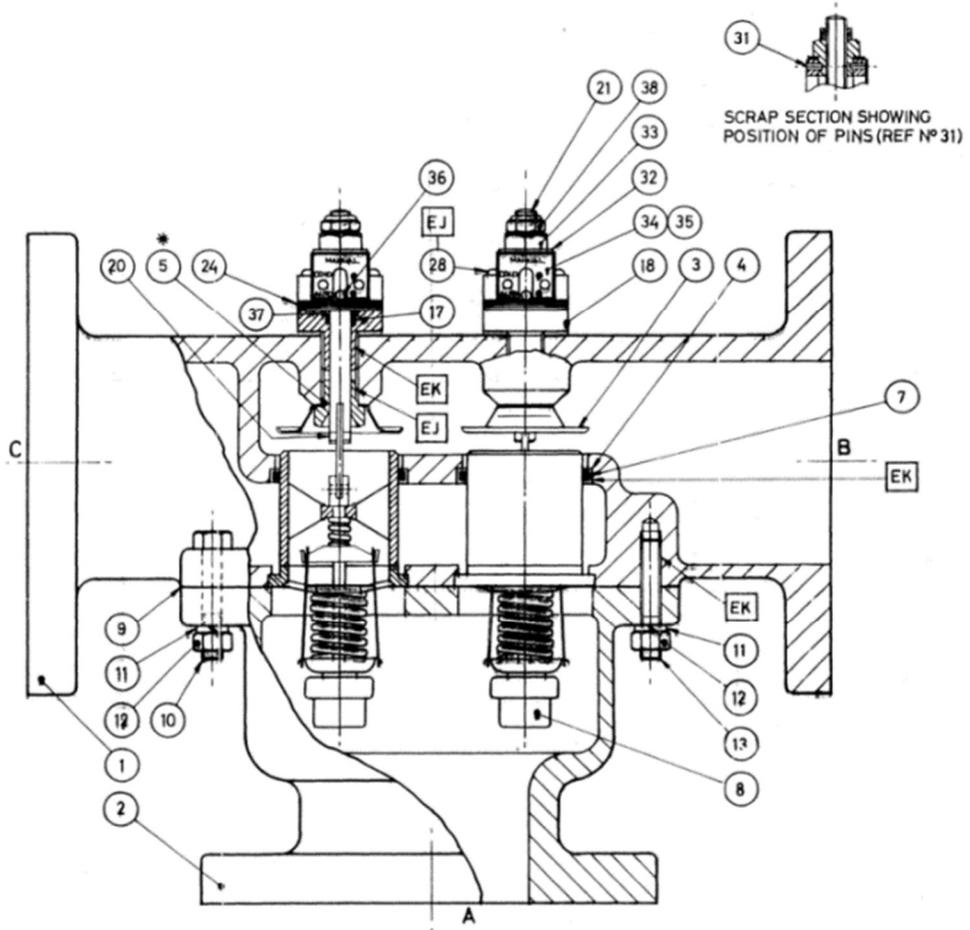
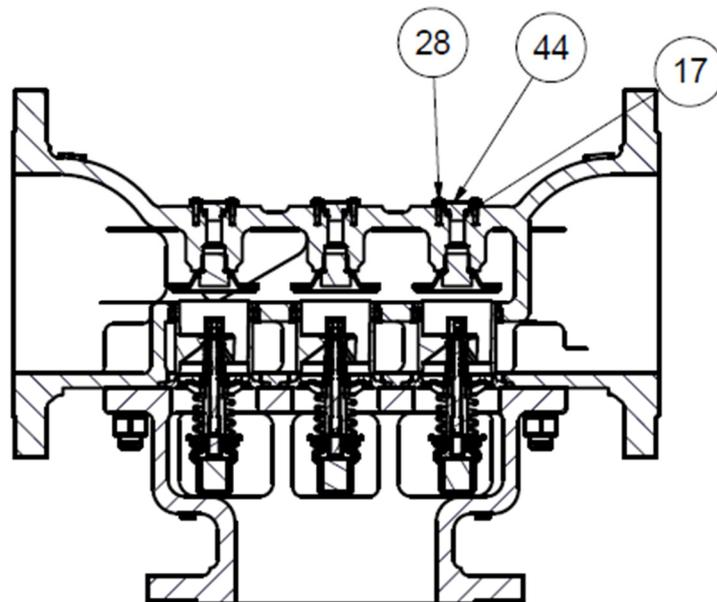

Figure 2 - Diagram showing 4" B valve with manual override
Figure 3 - Diagram showing 6" B steel valve without manual override
1. If emergency cooling is required then firstly loosen the locknut on the top of the override (reference Section 7.1, Figure 2, Item 38).
2. Turn adjusting nut (reference Section 7.1, Figure 2, Item 33) clockwise until indicator pin (reference Section 7.1, Figure 2, Item 36) has reached 'manual' position or desired cooling has been achieved then tighten locknut. Do not over adjust.
1. Refer to Figure 2. Remove housing nuts (Item 12) and split valve. Remove the lower housing (Item 2) taking care not to damage the elements. Remove and discard housing gasket (Item 9) ensuring any traces of the gasket are removed from the housing mating faces. Note that in some sizes of Model B Valves 'O' rings are used instead of gaskets.
5. Carefully remove the indicator pin (item 36).
7. Remove override housing retaining screws (item 28). For 5", 6" and 8" steel BO valve, remove cap plate (item 44 on Figure 3) and go to step 10.
10. Remove 'O' rings. For BR valve, 5", 6" and 8" steel BO valve, item 7 & 17. For other BO valves, item 7.